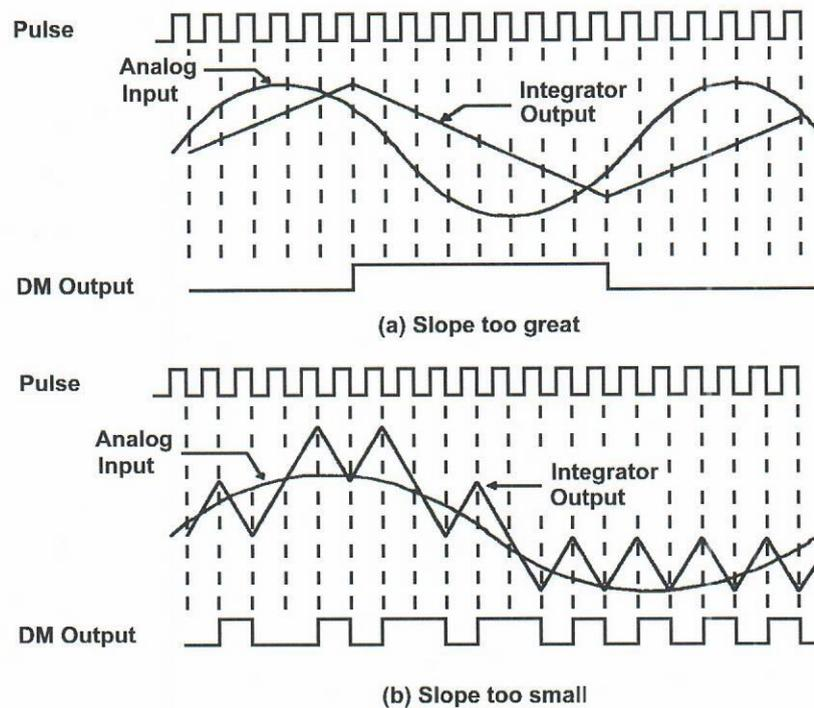

Figure 16-3 Integrating approximation and input signals
In practical DM systems the steps of the approximation signal are not formed by integrating impulses, since it is in practice impossible to produce impulses. Instead, the approximation signal is usually formed from triangular wave segments, which are produced by integrating pulses of finite duration. This is shown in Figure 16-3 where the pulse signal is generated by a pulse generator.
Since the slope of the integrator and the pulse train frequency are both fixed in a particular system, the maximum rate of increase or decrease of the approximation signal (integrator output) is fixed. If the slope of the input signal is too great, the approximation signal cannot follow it. This is called the effect of slope-overloading as shown in Figure 16-3(a). In Figure 16-3(b), the slope of the input signal is too small so that the high-frequency sawtooth waves are added to the approximation signal.
1. When the detector monitors n successive 0s or 1s on DM output, as the case of Figure 16-3(a), the slope of the integrator is identified too small and the slope is continuously increased to an appropriate value.
2. When the detector monitors n successive different data, as the case of Figure 16-3(b), the slope of the integrator is identified too great and the slope is continuously decreased to an appropriate value.